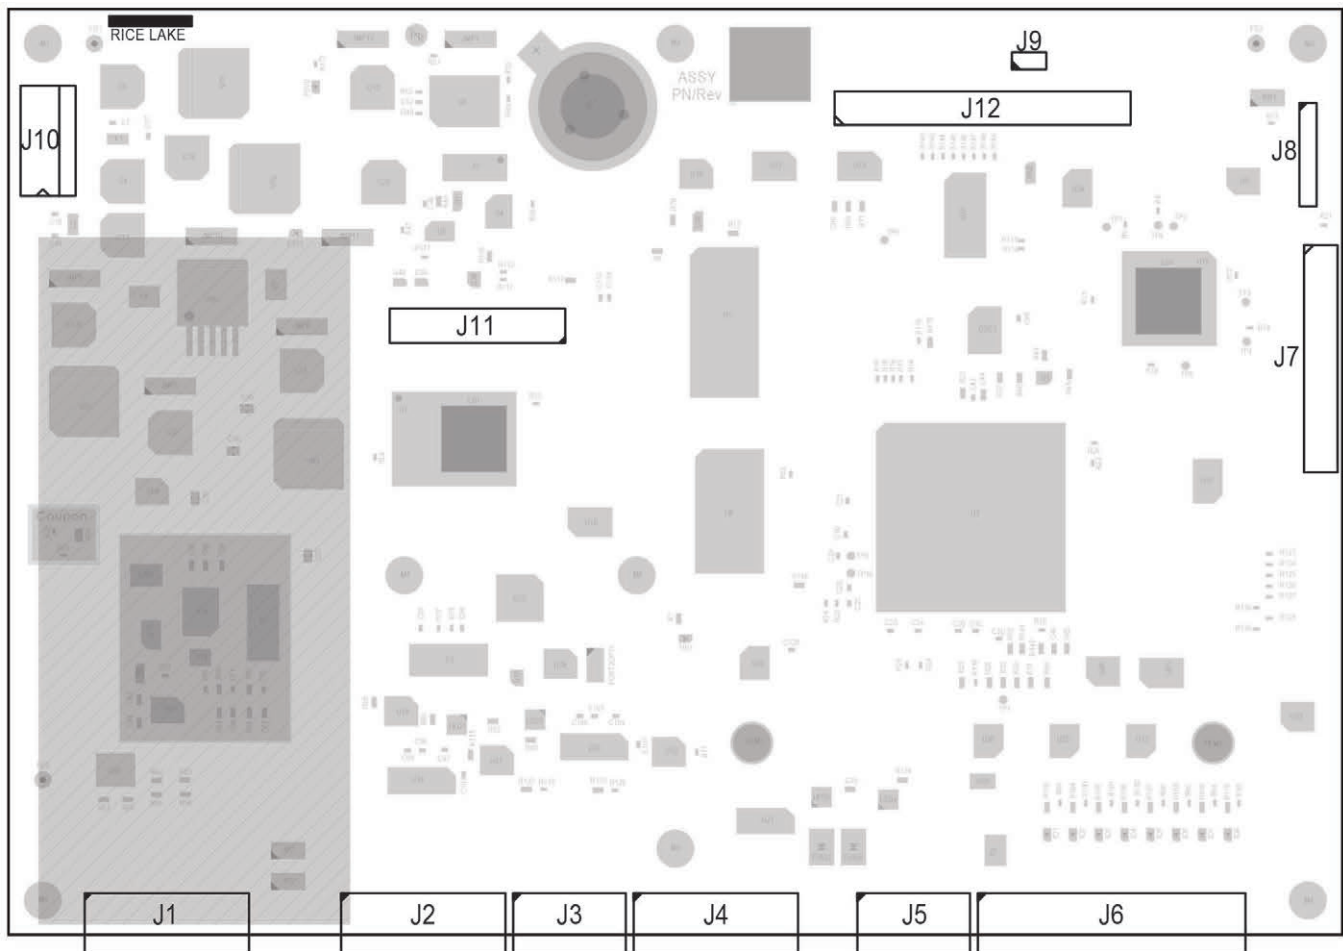
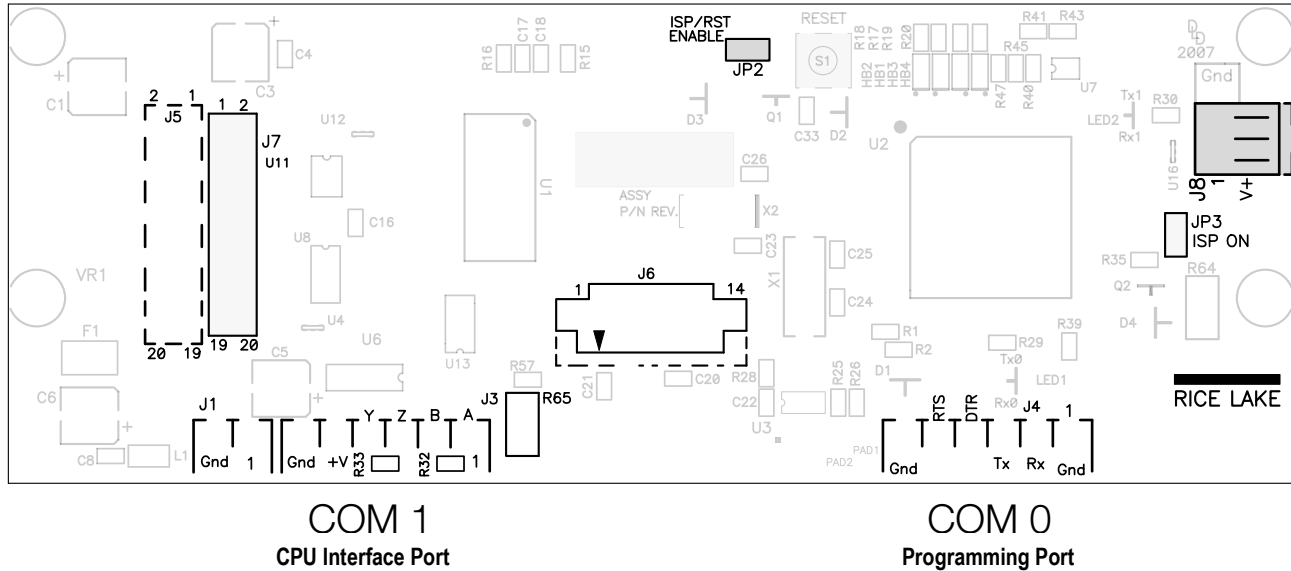

Figure 3-2. 720i CPU Board
Figure 3-3. 720i Display Board
**NOTE:** Installation of option cards in connector J11 requires removal of the PORT2/OPTI port selection jumper (Figure 3-2 on page 18). Install the jumper to enable RS-232 communications through connector J2; remove the jumper to enable a USB or Ethernet option card installed in connector J11.
Table 3-6 shows the connections between connector J4 on the 720i CPU board and connector J3 (Com 1) on the detached display module (DDM) board. See board diagrams in Figure 3-2 on page 18 and Figure 3-3 on page 19.
2. Carefully align the option card connector with connector J12 or J11 on the CPU board (Figure 3-2).
4. Use the screws provided in the option kit to secure the other end of the option card to the threaded standoffs on the CPU board (Figure 3-2).
Table 3-7 lists the slot numbers, CPU board connectors and configuration assignments made for both onboard and expansion card functions in the 720i. See Figure 3-2 on page 18 for connector locations.